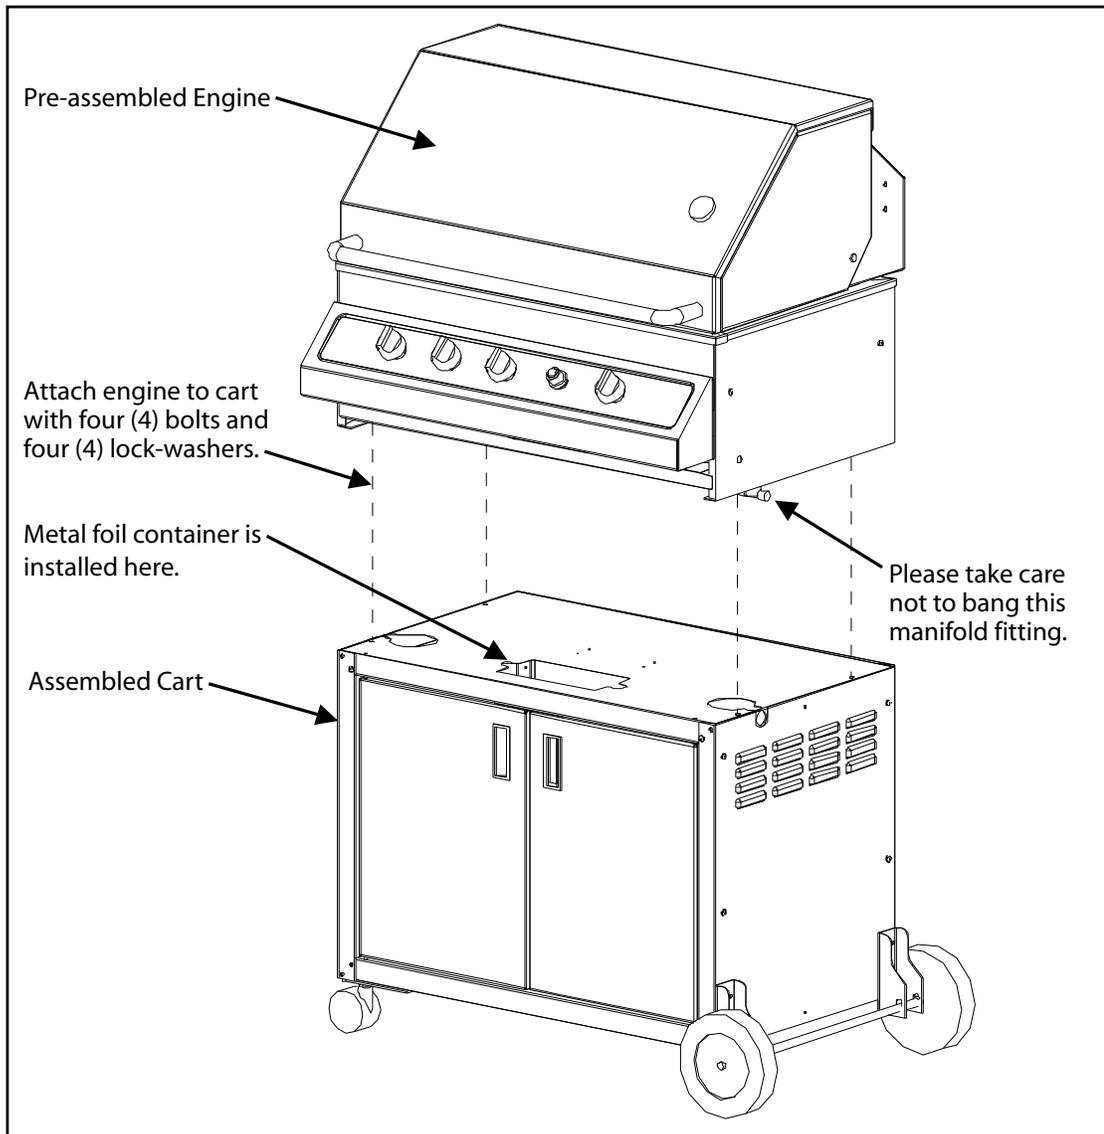

Figure 17
Empty all the components (frame deflectors, manual bag, and warming tray) from inside the engine to make it lighter to lift. Turn the cart body right side up. Using two (2) people, lift the engine onto the cart. Take care to line up the manifold fitting on the bottom of the engine with its corresponding cut away on the top of the cart. Refer to Figure 17.